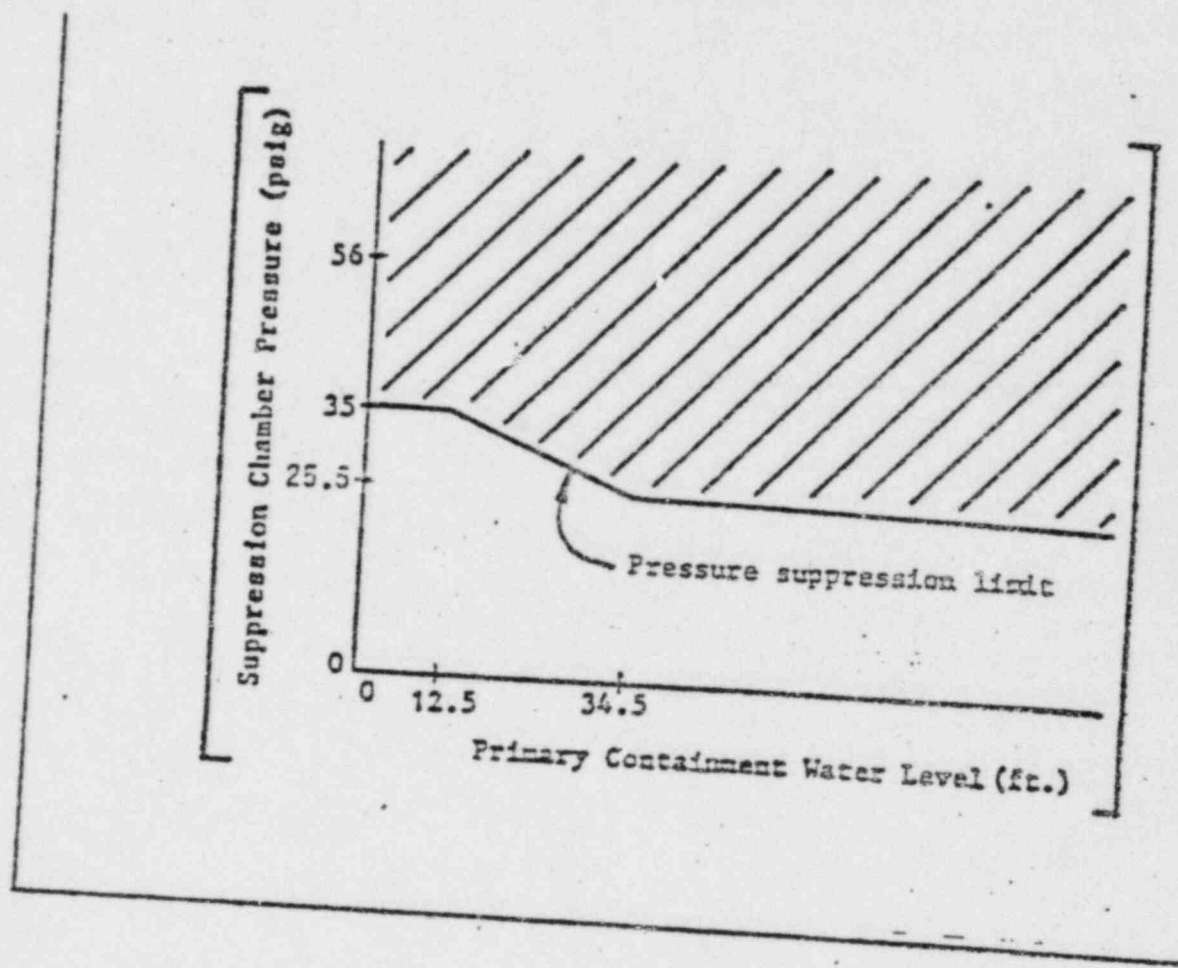

FIG 1
3.4 IF suppression chamber pressure cannot be maintained below the pressure suppression limit (Fig. 1)
3.5 IF suppression chamber pressure can be maintained below the pressure suppression limit (Fig. 1)